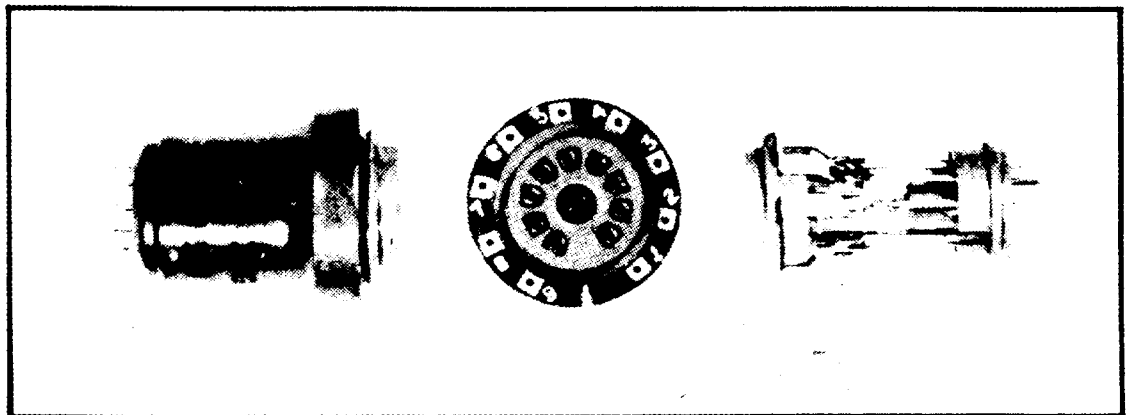
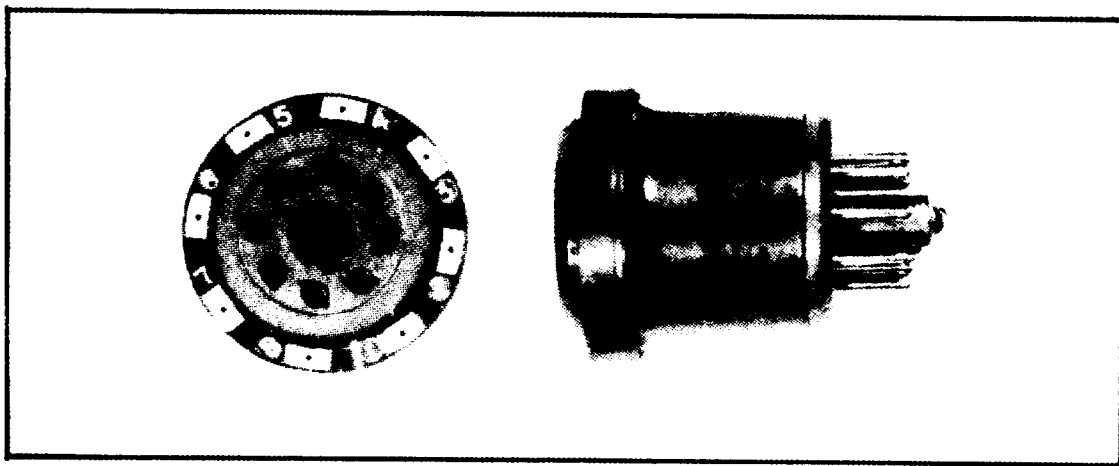

Figure 1-2. Miniature Type Adapter
Figure 1-3. 8 Pin Octal Adapter, Top and Side Views
diameter) in the center of each tab provides the receptacle into which the point of the test probe may be inserted for making measurements. Refer to Figure 1-2, which shows the 9 pin miniature unit from the top, side and also side with the shell removed. Figure 1-3 depicts a top and side view of the 8 pin octal adapter. All of the adapters are basically similar to those shown in Figures 1-2 and 1-3.
d. Each tab is marked with the standard JAN pin number and is so marked with white filled characters molded in the bakelite material. Refer to Figures 1-2 and 1-3.